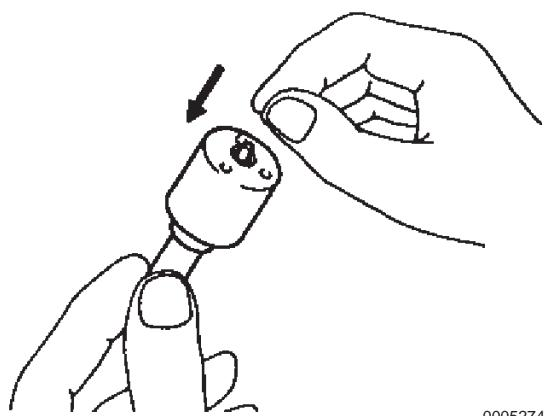

Figure 6-23
6. Check that the needle tip returns smoothly into the body by its own weight. Repeat the above test several times after turning the needle tip (**Figure 6-23**). If the needle tip fails to return smoothly, replace the nozzle assembly.